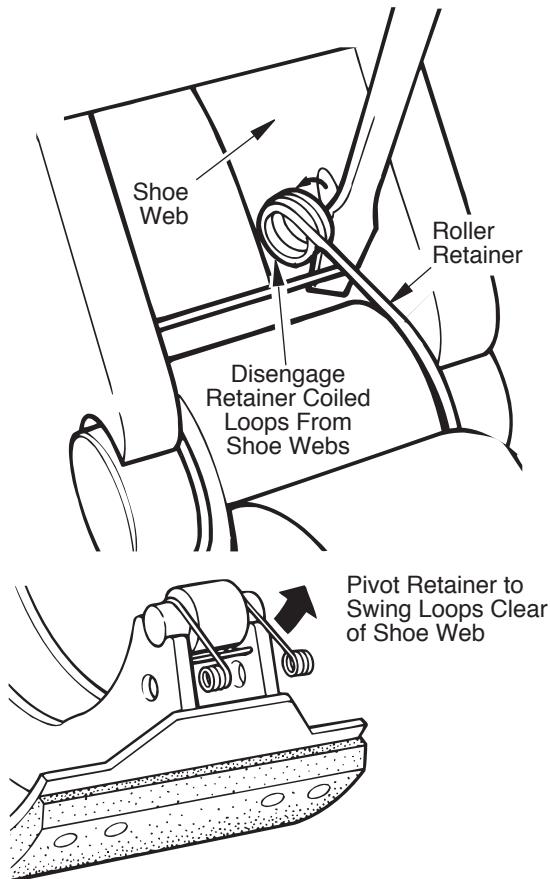

Figure 5
2. **ES-165-5,6,7,8,D,L,F, ES-150-4D, ES-150-8D, F & 6D ONLY:** Pry roller retainer coiled loops out of both shoe web holes as shown in Figure 5. Pivot roller retainer to swing loops clear of shoe webs.